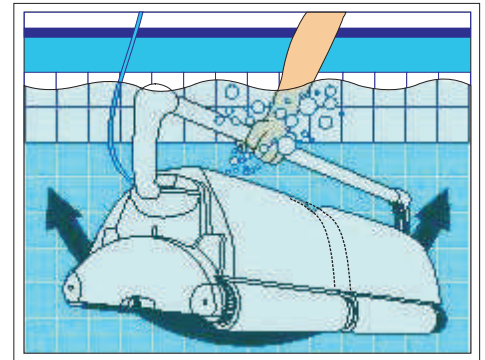
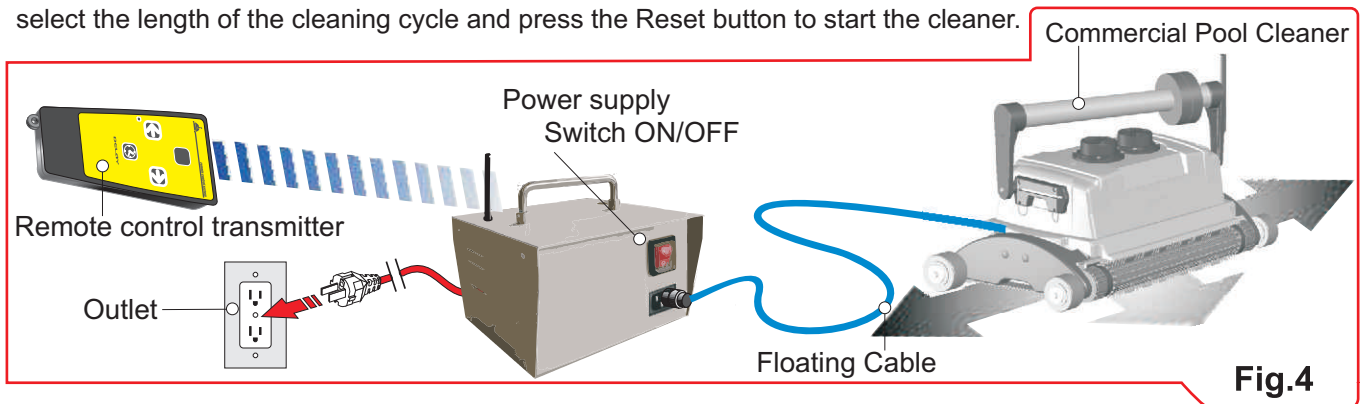

Fig.3
Fig.4
- (1) Locate a GFCI 110Vac. receptacle, and plug the transformer in.
- (2) Completely immerse the cleaner in water.
- (3) While the cleaner is in the water, gently tilt it side to side (fig3). This will allow any trapped air to escape through the pump outlets. Then, with a gentle push, allow the cleaner to sink to the bottom of the pool.
- (1) Remove the Bumper wheel by removing the "C" clip and then the locking screw (FIG 3).
- (2) Turn the cleaner upside down and remove the Bottom Lid Assembly. Locate and remove the four screws that hold the Side Plate to the main body. The Side plate is now free and ready to be removed.
- (3) When the Side Plate is taken apart, you will notice 3 black bushings. It is a good idea to replace these Bushings as well when the Drive Tracks are replaced.
- (4) After the Drive Tracks and Bushings are replaced, reassemble the Side Plate as shown here. (FIG 4)